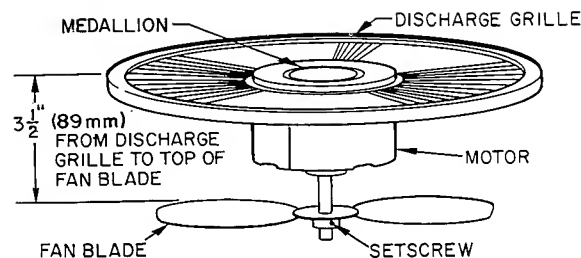

Fig. 7 — Outdoor Fan Position
**Outdoor Fan Adjustment** — Required fan position is shown in Fig. 7. Adjust fan by loosening setscrew(s) and moving fan blade up or down.
7. Reassembly is reverse of above procedure. Make sure fan is positioned correctly as in Fig. 7.